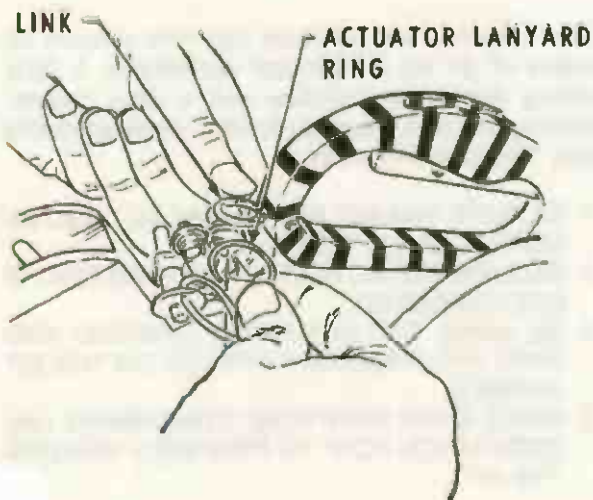

Figure 3
10. Remove survival kit actuator lanyard ring from link and stow through kit handle. (Fig 3).